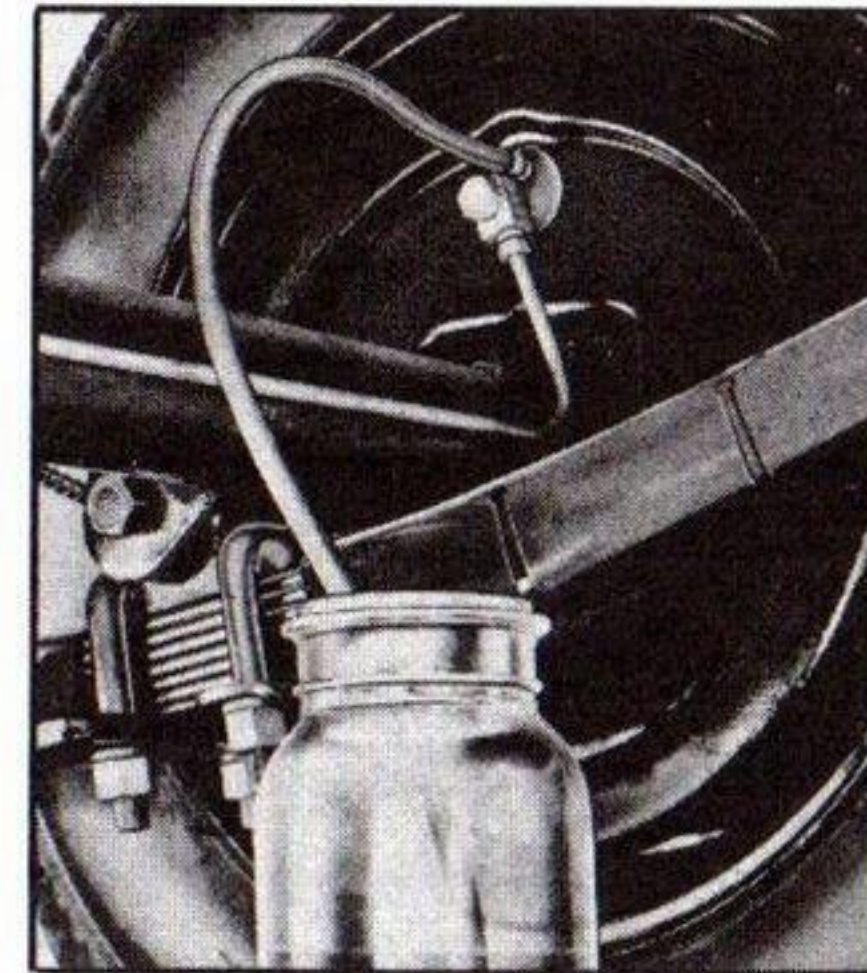

Fig. 42—Bleeding Brakes at Wheel Cylinders
4. Attach a bleeder hose to the bleeder valve at this point (fig. 42) and place the free end of the bleeder hose in a clean container